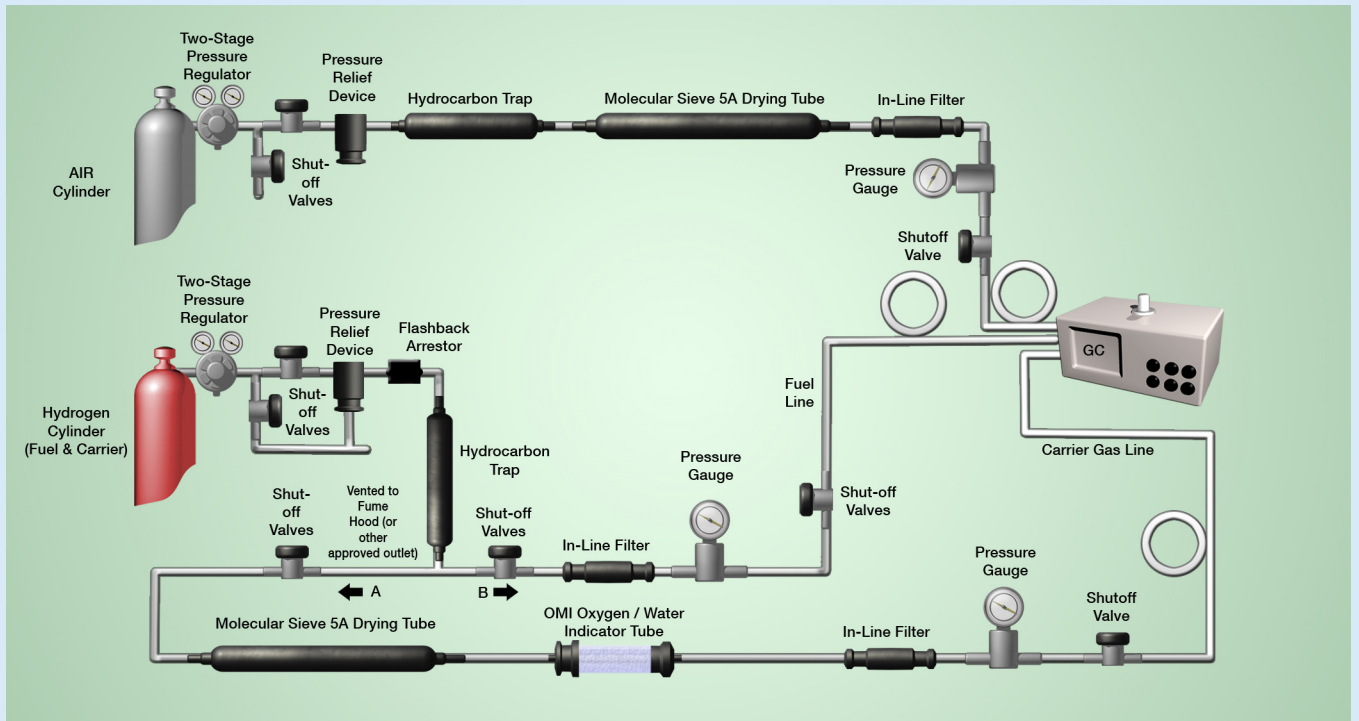

Figure 2: Ideal Configurations for a Single-GC System: Hydrogen Used as Carrier and Fuel Gas
- 3 Add new make-up gas line preferably for use with Nitrogen. (See Figure 2)